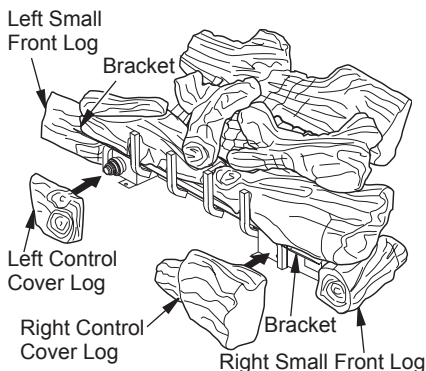

Figure 21 - Installing LBG36-SM Model Control Cover Logs
7. For LTF36-SM, the front right and left logs are longer and are supported with brackets on each end (see Figure 21). Place left and right small front logs under left bracket and beside right bracket.